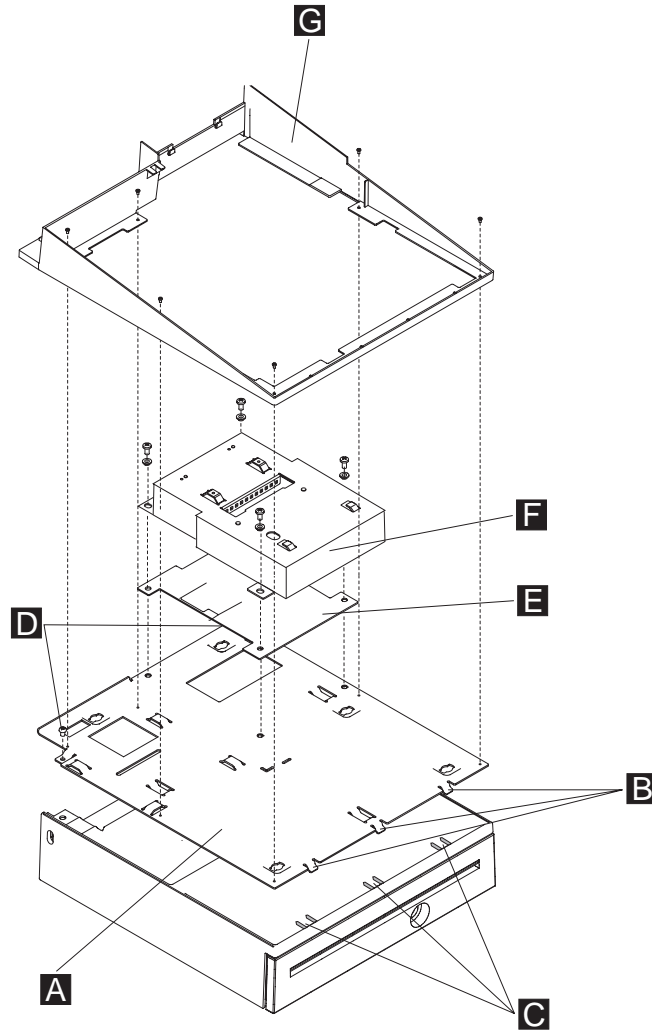

Figure 38. Installing the keyboard-integration tray on a cash drawer
- a. Tilt the integration tray down so the three tabs **B** align with the three tab holes **C** on the cash drawer as shown in Figure 38. Set the integration tray down on the cash drawer while aligning the screw holes **D** with holes on the cash drawer.
7. Attach the mounting plate **F** to the integration tray with four plastic washers and screws as shown in Figure 38.